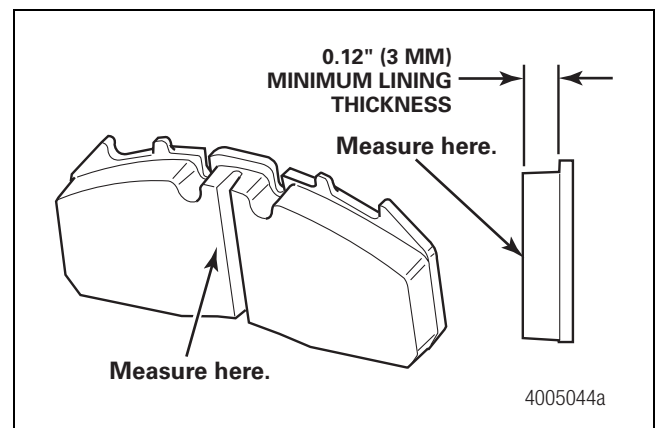

Figure 4.8
9. Measure the friction material thickness from the center of the brake pad. Replace brake pad assemblies before the lining thickness reaches 0.12-inch (3 mm). Figure 4.8.